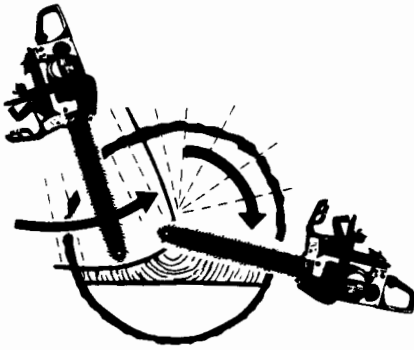

Fig. 11
2. When diameter of wood being cut is greater than the bar length, make 2 cuts as shown (Fig. 11).